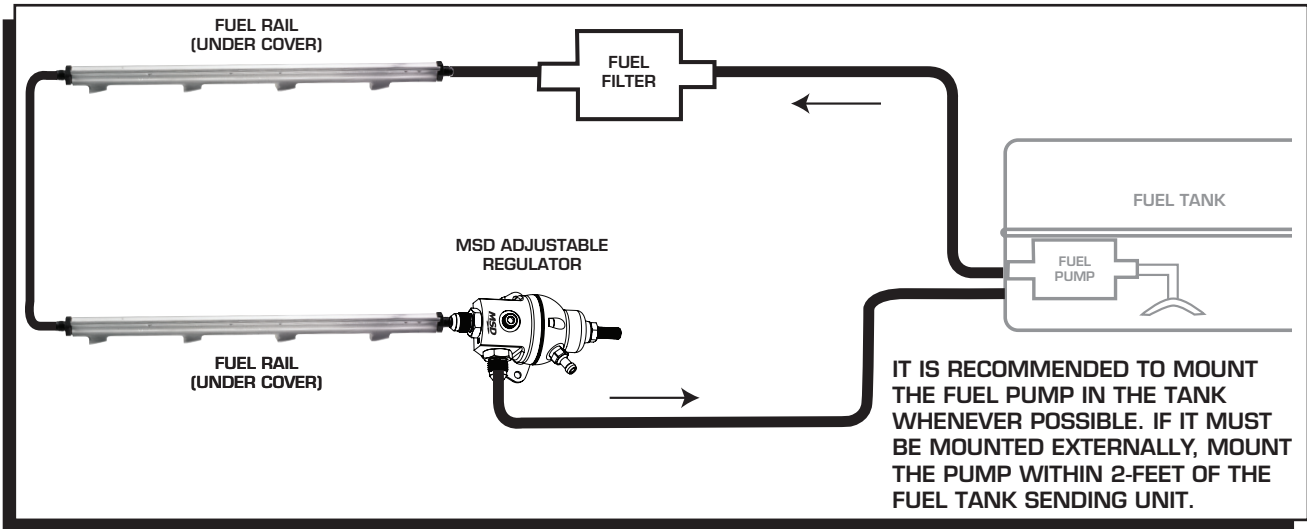
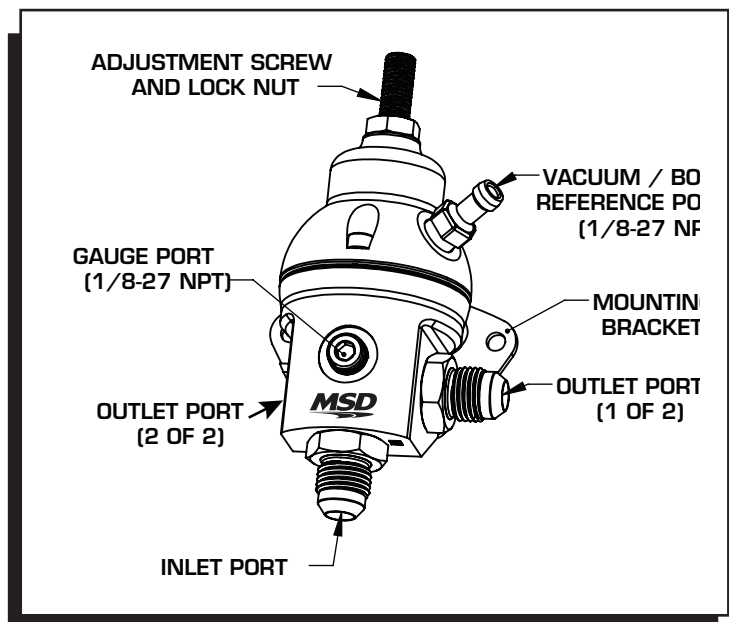

Figure 2 Atomic LS Return Fuel System.
Figure 4 Regulator Feature Identification Guide
Use the schematic below as a guide when installing the kit in conjunction with an Atomic LS EFI system (Figure 2). There are two possible connection points (one at the rear of each fuel rail assembly). One rail will be connected to the fuel supply in an operational system. DO NOT “tee” into the supply line and leave the opposing fuel rail plugged or capped (Figure 4). Fuel from the opposing rail should be routed to the regulator inlet port (using the supplied hose and fittings). The hose length between the rail and regulator is not critical, but generally speaking, should be kept to a minimum.
The regulator inlet port is located on the bottom surface, and clearly marked with an identifier machined in the housing (see Figure 4 below). Two (2) outlet ports are available, but typically only one (1) will be used. Install the supplied -6AN port plug in the unused outlet port using a 5/16-inch hex key (Allen wrench). The -6AN straight port fittings should be snugged with an 11/16-inch wrench or deep socket.
Install the supplied 1/8-27 NPT brass hose barb fitting in the upper regulator housing (see Figure 4 below) using a 7/16-inch wrench or deep socket. Thread sealer is not required on this fitting, but can be used if desired. Connect an intake manifold vacuum / boost source to this fitting, or leave it open to the atmosphere if manifold pressure compensation is not required. DO NOT plug this opening. Ensure that contaminants (such as water and road spray) cannot enter the open fitting. In the event that vacuum / boost reference is not required, a more cosmetically pleasing option is to install a sintered metal exhaust muffler in this port (such as McMaster-Carr PN 4450K1-Bronze or PN 4402K51-Stainless Steel)